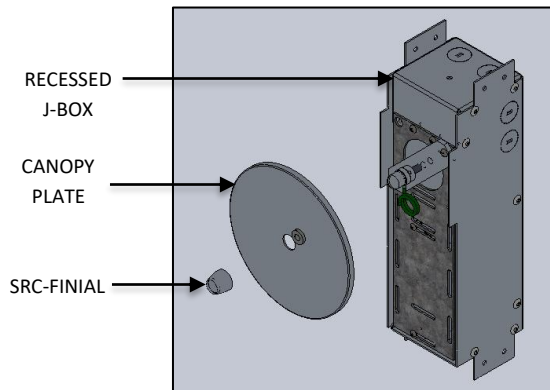

FIG. 10 – FINIAL AND CANOPY
1. Unscrew SRC- FINIAL and remove the CANOPY PLATE out of J-BOX as shown in FIG. 10.